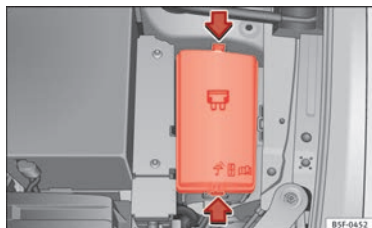

Fig. 182 In the engine compartment: fuse box cover
- Press the locking tabs to release the fuse box cover ⇒ Fig. 182.